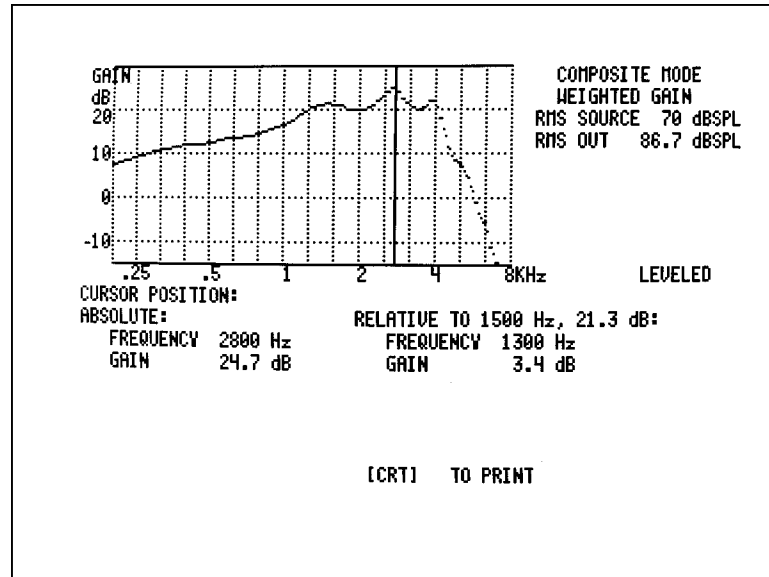

Figure 3.5.7—Relative function
3. Now move the cursor to any other position. Under RELATIVE, you will see values of the frequency and amplitude or gain of the curve at the new cursor position, relative to the values at the reference position (Figure 3.5.7).